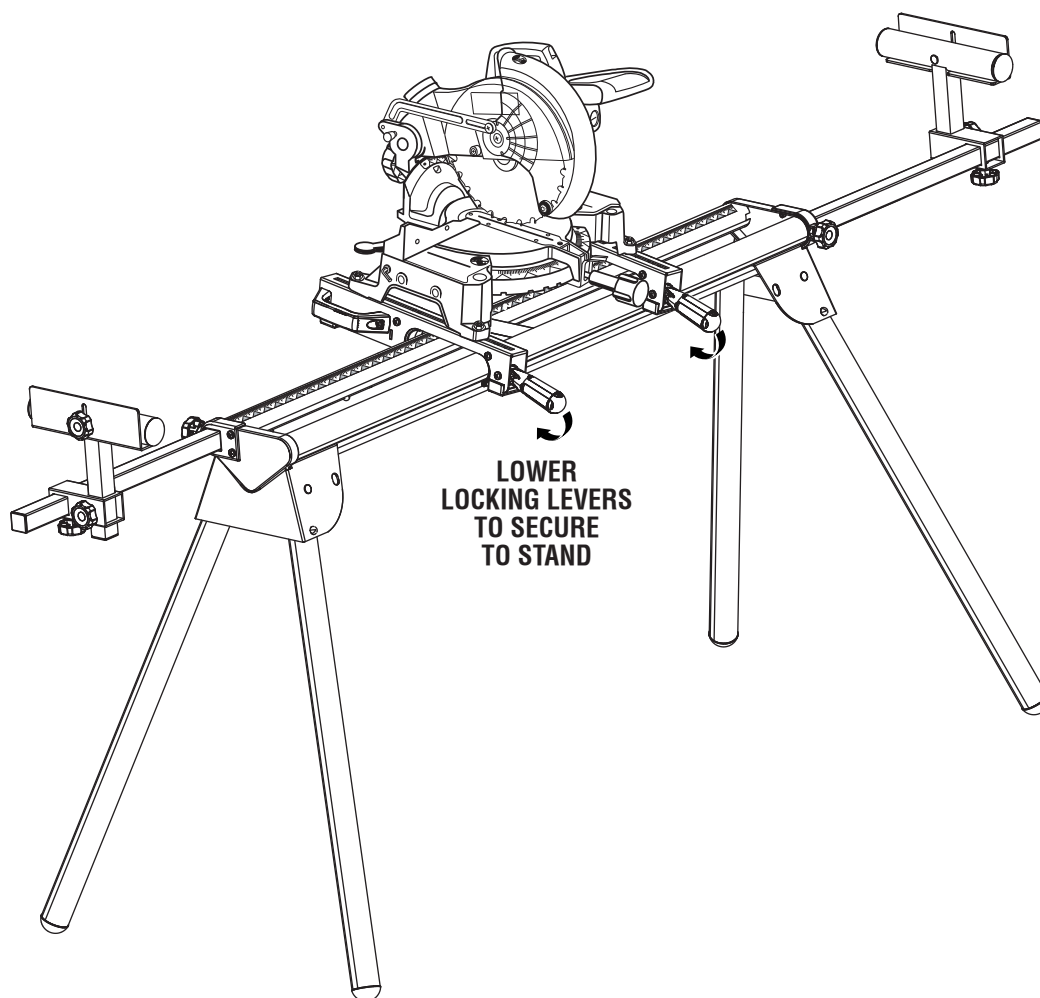

Fig. 9
- Check position and adjust, if necessary, to make sure the weight of the saw is evenly balanced over the rails as shown in figure 9.